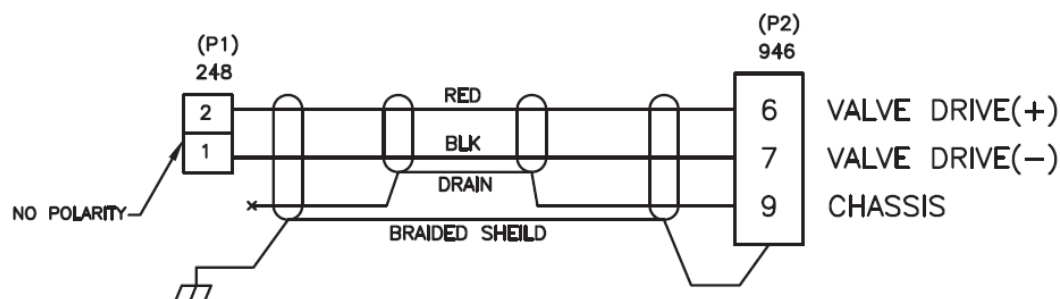

Figure 7-8 Wiring Diagram for 10018192 Cable
- 10018192 cable can be used to connect an MKS 148/248/154 upstream valve to the 946 Vacuum System Controller. Its wiring diagram is shown in Figure 7-8. Only one valve can be connected to the controller to regulate the system pressure.